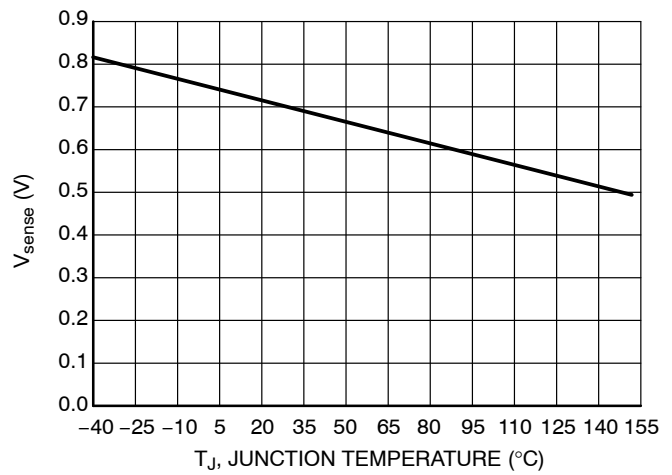

Figure 2.  $V_{\text{sense}}$  vs. Junction Temperature
- a.  $R_{ext} = V_{sense} \text{ (see Figure 2)} / I_{LED}$